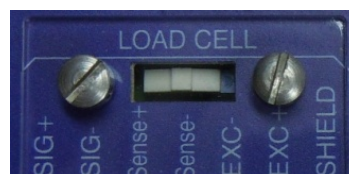

Figure 3.1.1 Calibration switch detail
-Metrological parameters: These parameters affect directly the calibration counter, in the schemes are accompanied by the \textcircled{P} symbol. To be able to modify these parameters it is necessary to set the correct PIN number and the calibration switch (see figure 3.1.1) should be in the unlock position when getting into the configuration menu.